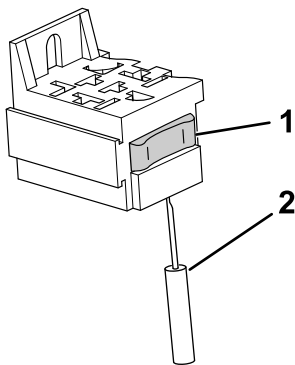

Figure 3
5. Use a terminal removal tool to remove the secondary lock from the connector (Figure 3).
3. Install the secondary lock on the connector (Figure 3).